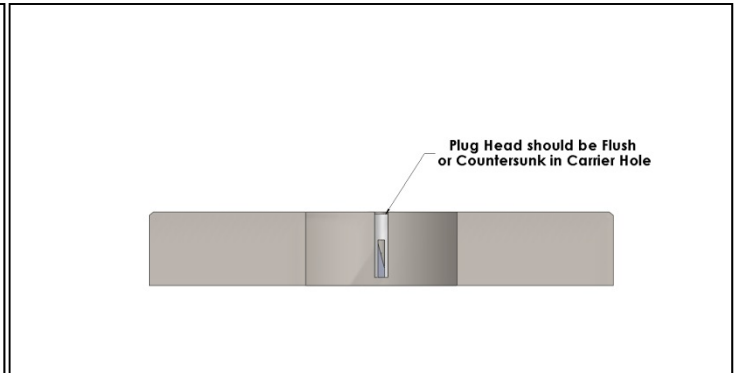

FIGURE 1.4
- 9) Remove provided 7/32" Punch from package and use it in combination with a small hammer to gently tap plugs into their final location (the plugs should be flush or recessed in carrier holes to allow for proper mating and parallelism of the holder and disk faces). See FIGURE 1.4.